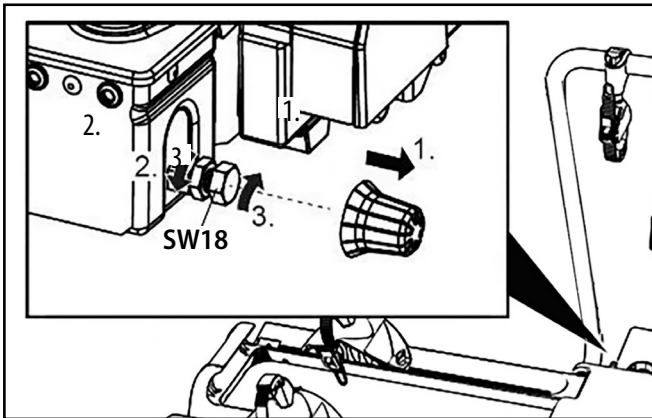

Figure 15: Adjusting the quick-release fastener
- Slightly loosen the lock nut (Fig. 15).
- Turn the adjusting screw in a quarter of a turn (Fig. 15).